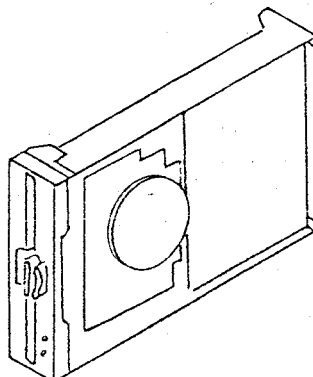

Fig. 4.25 Positioning the FDD for Adjustment
(3) Adjustment procedure
- (a) Turn off DC power supply. Position the FDD vertically as shown in Fig. 4.25.
(When the FDD is positioned vertically as shown in Fig. 4.25, the step motor presses itself onto the surface under its own weight.)